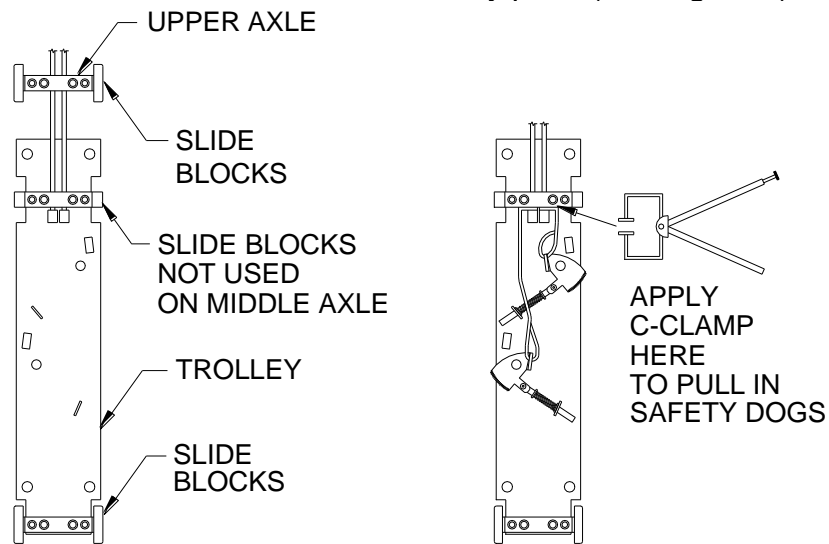

Figure 5
1. Note that four (4) slide blocks are supplied. Two slide blocks are located on the upper (loose) axle, and two on the lower axle mounted on the trolley plate (see Figure 5)